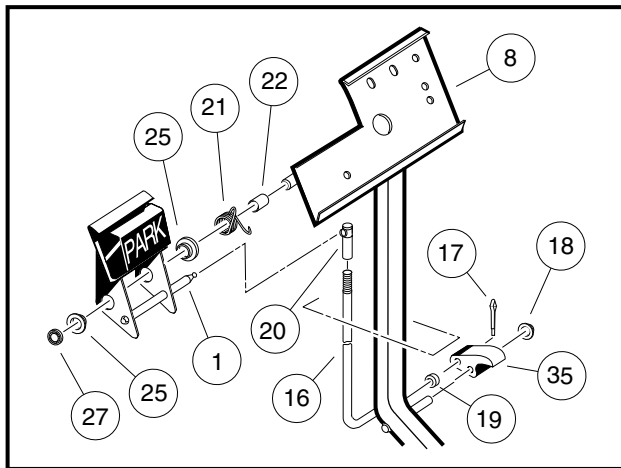
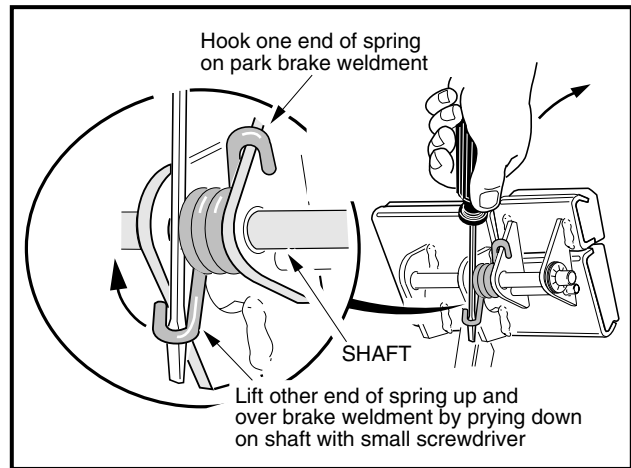

Figure 5-6 Park Brake Assembly
Figure 5-7 Torsion Spring Installation
NOTE: New push nuts (18) and (27) must be used when reassembling the park brake (**Figure 5-6, Page 5-5**).
- 3.2. To remove the park brake pedal (1), remove the push nut (27), disconnect the torsion spring (21) (**Figure 5-6, Page 5-5**) and slide the pedal off of the shaft. See preceding **NOTE**.
- From the bottom side of the floorboard, insert the park brake rod (16) through the brake pedal assembly opening as shown (**Figure 5-6, Page 5-5**). Then install the park brake pawl (35) onto the shaft on the brake pedal assembly (8) and also insert the park brake rod (16) into the park brake pawl.
- Install the push nut (18) onto the park brake pawl shaft.
- Install the spacer (22) and torsion spring (21) on the park brake pedal shaft on the brake pedal assembly.
- Install the two bushings (25) in the park brake pedal and position the park brake pedal on the shaft on the brake pedal assembly weldment (**Figure 5-6, Page 5-5**). Then attach the ends of the torsion spring to the park brake pedal and to the brake pedal weldment as shown (**Figure 5-7, Page 5-5**).
- Install the push nut (27) on the park brake pedal shaft (**Figure 5-6, Page 5-5**).
- Connect park brake rod (16) ball joint to ball stud on park brake pedal assembly.